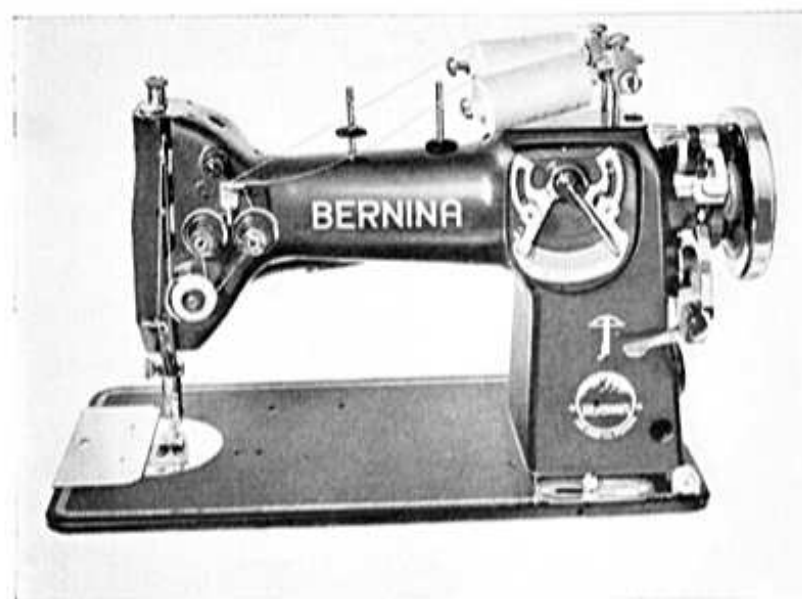

Fig. 38
5. Thread the machine as per Fig. 38, namely: